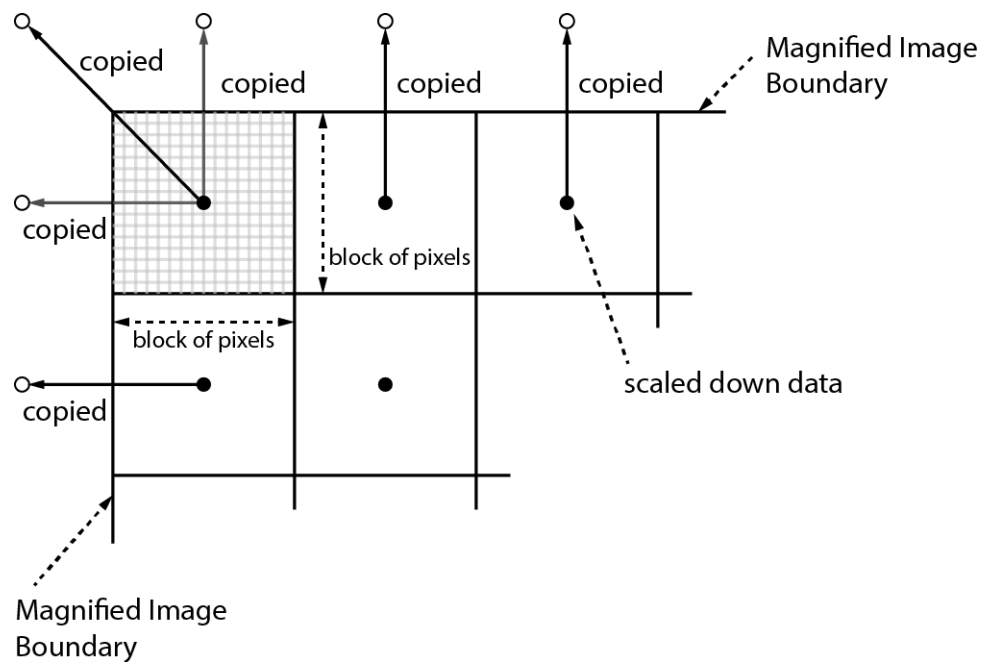

Figure 9.8 Bilinear Interpolated Magnification
4. Execute the **Flat Field Data Save** parameter to save the generated Flat Field correction data into the non-volatile memory. The scaled-down Flat Field correction data will be expanded and then applied as shown in the Figure 9.8 when it is used for correction.